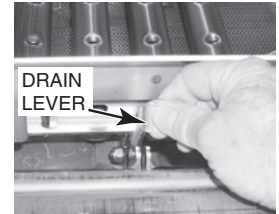

Fig. 28
4. Open drain(s) by pulling drain lever(s) up (Fig. 28).